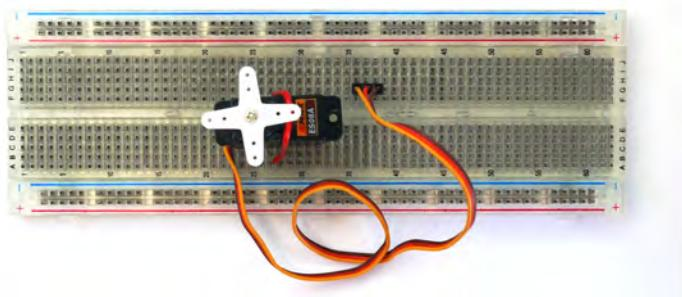

Figure 3-3. Placing and securing the servo motor on the full-size clear breadboard
4. Place and secure the servo motor on the full-size clear breadboard with hookup wire, as shown in Figure 3-3.